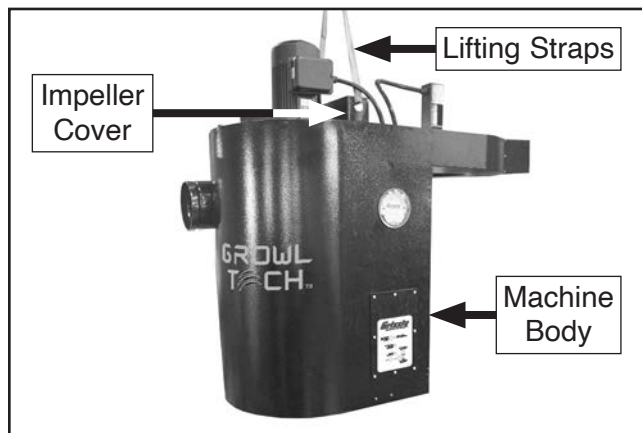

Figure 23. Location of machine lifting point.
8. Pass lifting straps (rated for at least 700 lbs.) through holes in impeller cover base, then with a forklift or hoist, lift machine body, as shown in **Figure 23**.